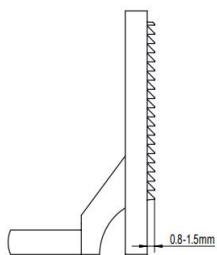

图27 (Fig.27)
送布牙(C)升至最高点时, 送布牙齿顶与针板面的距离为 0.8-1.5mm, 平均为 1.2mm。(图 27)
When feed dogs .(C) move to the highest position ,the distance from the tips of feed dogs to the face of Needle plate is 0.8-1.5mm.The average is 1.2mm (Fig.27)。
送布牙上升至最高时应与针板平行(图 27)。调整:
When the feed dogs are at the highest position they should be parallel to Needle plate surface (Fig.27)。 For adjustment: